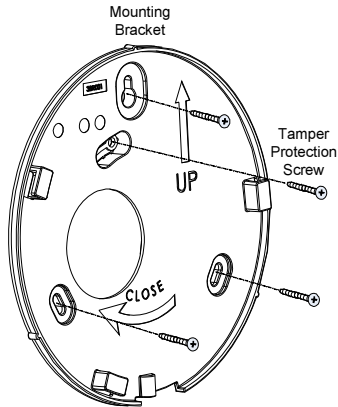

Figure 4-1: Attaching the mounting bracket
3. Attach the back cover to the wall using supplied screws (see Figure 4-1).